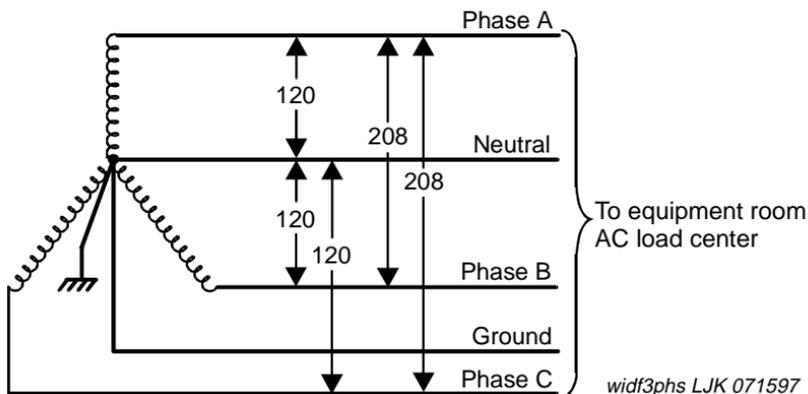

Figure 19. Three-Phase, 120/208 VAC, 60 Hz Source
- Three-phase, 5-wire, 208 VAC. See Figure 19.